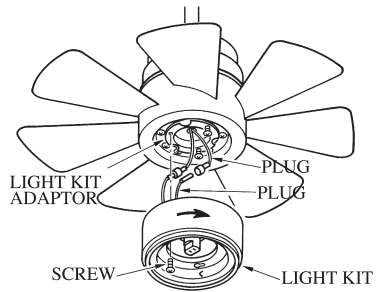

FIG.10
- Connect the light wires from the fan with the wires from the light kit plate; remove one screw and loosen the other two from the light kit adaptor. Align the screw hole from light kit plate with the screws on light kit adaptor, and tighten all three screws (see fig.10)